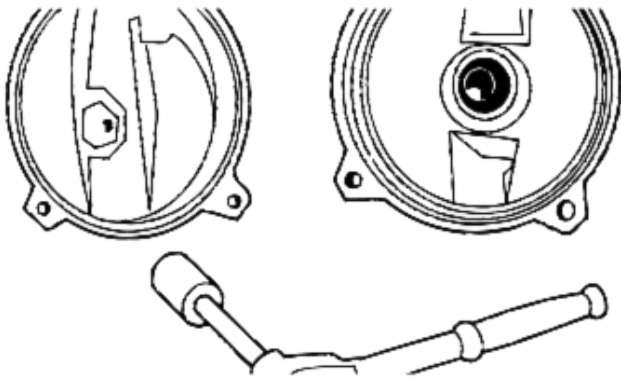

Figure 14: Remove Nozzle
8. Nozzle on 1/2 HP models can be removed from pump case with any standard 1-1/4" socket wrench with an extension (Figure 14). On 3/4 and 1 HP models venturi tube and nozzle can be removed in same manner using 27/32" socket for the venturi and 9/16" socket with extension for nozzle.